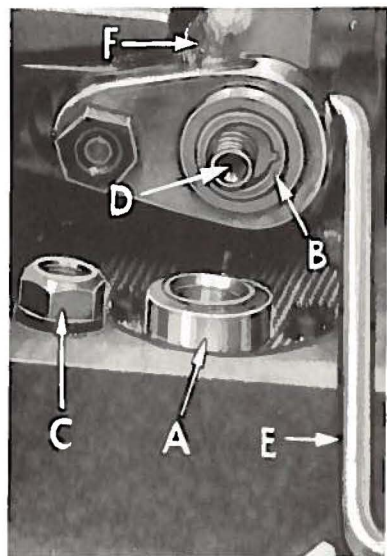

Fig. 11
Length of stitch is determined by the combination of feed eccentrics used. Outer (left) eccentric (A, Fig. 11) actuates main (rear) feed dog, while the inner (right) eccentric (B) actuates the differential (front) feed dog.